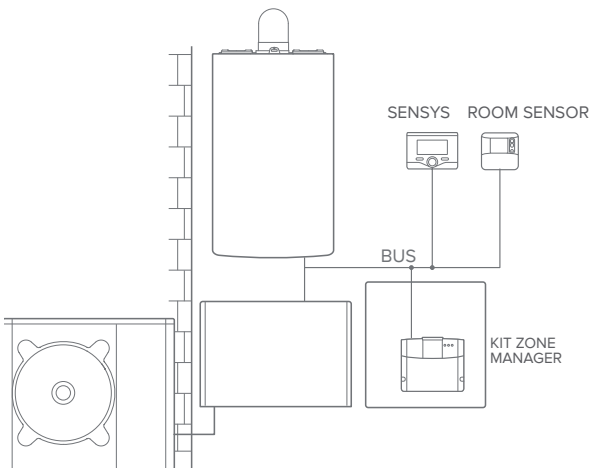

fig.9
### Activation of RD and RC in a hybrid system with up to 2 hydraulic zones controlled by BridgeNet BUS devices (Fig. 9)
3. Attach the cover, pushing gently (Figure 9).